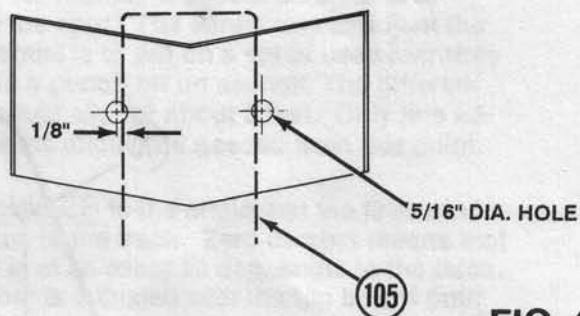

FIG. 42
1. Place the bent U-shaped wing wire (105) on the bottom side of the wing (108) in the position you wish it mounted. Fig. 42.
2. Measure 1/8" to the outside of both sides of the wire and drill two 5/16" dia. holes as shown in Fig. 42.